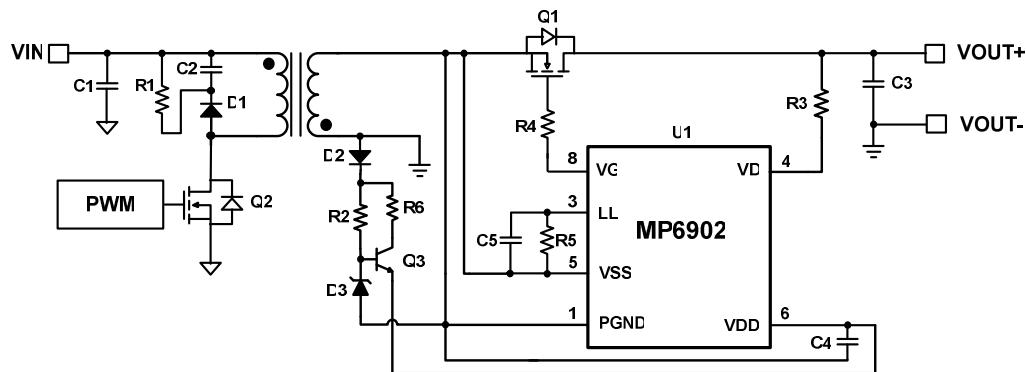

Figure 5 — Non-auxiliary Winding Power Solution for MP6902
Figure 5 shows another non-auxiliary winding power solution for MP6902, R2, R6, D3, Q3 forms an external LDO circuit, in which D3 provides the output clamp of the LDO, R6 (typical <1kΩ) limits the LDO current, while R2 provides the turn on signal for Q3, which can be selected as several tens kΩ. The D2 can also be connect to system output voltage (V_{OUT+}) instead of transformer winding, when the LDO output is not high enough to power the VDD.
- Design the V_{DD} power supply derived from secondary transformer winding as figure 5 shows.